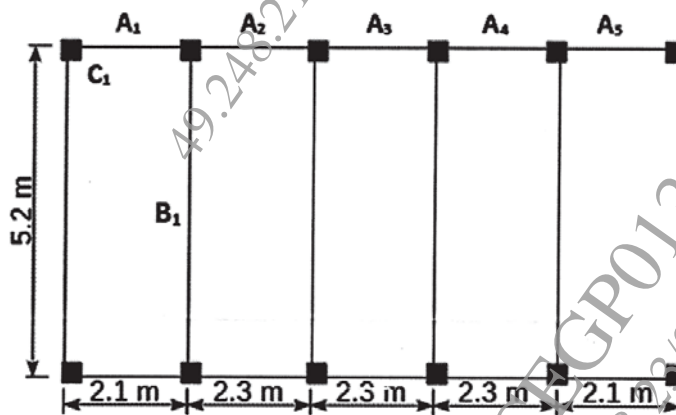

Fig. 1
Q2) a) Figure 1 shows the floor plan of a building. The beams are of size 230 mm × 450 mm. Beam B₁ is reinforced with 4-16# bars in tension and 2-10# in compression. The load on the slab is 6 kN/m². Design the beam for shear. Adopt M-25 grade of concrete and Fe-500 grade of steel. Sketch the details of reinforcement. **[14]**
- Q3) a)** For the floor plan shown in Fig. 1, design the continuous beam $A_1-A_2-A_3-A_4-A_5$. The total load on the slab is 5.5 kN/m^2 . Design the beam using M-20 grade concrete and Fe-500 grade of steel. Sketch the details of reinforcement. [15]
- b)** For the floor plan shown in Fig. 1, design column C_1 . Show how the column is oriented, The column is subjected to working load of 700 kN , working moment of 90 kN-m about major axis bisecting the depth of column. The unsupported length of column is 4.0 m . The column is fixed at both the ends. Show detailed design calculations and reinforcement details. Use M-30 grade concrete and Fe-500 grade of steel. [14]